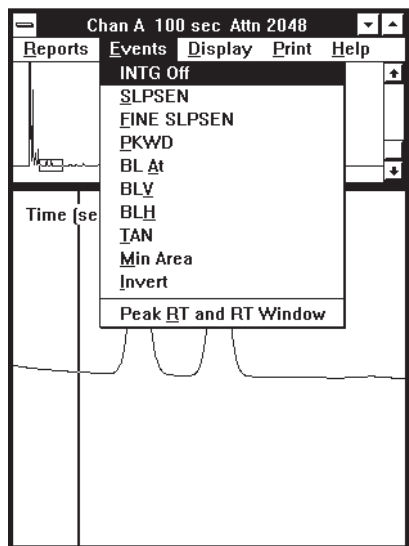

Figure 28 Events menu
3. Select the **Events** menu located in the channel A menu bar (See Figure 28).